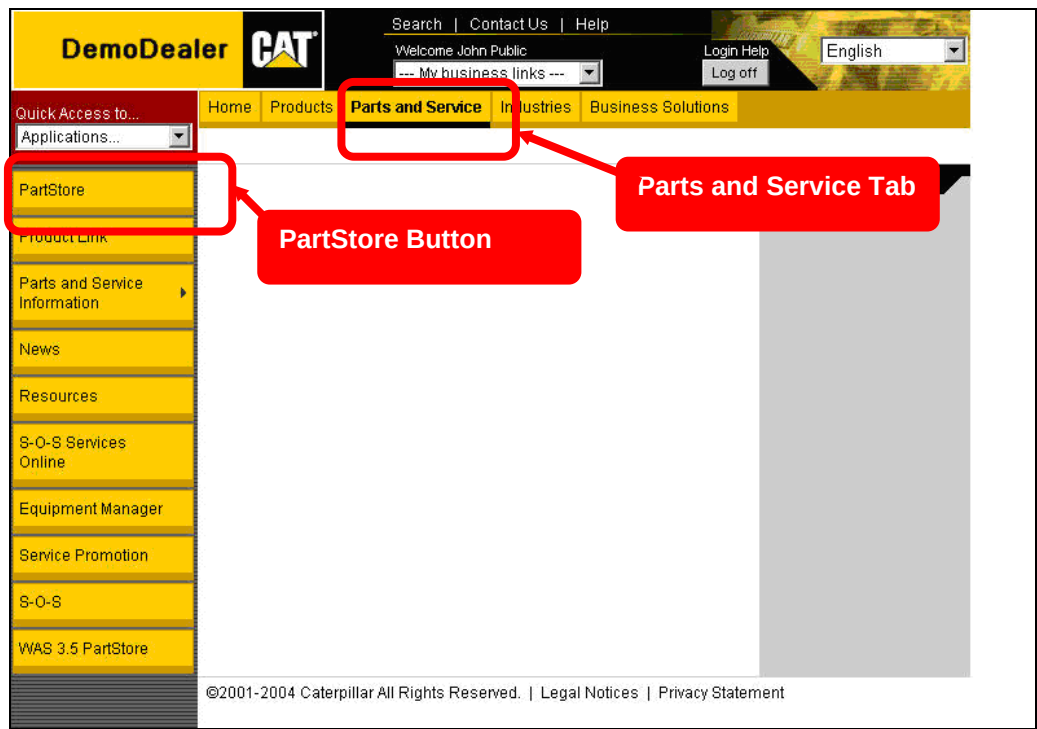

Figure 8 : Dealer StoreFront Parts and Service Screen
- The 'Parts and Service' tab. (Figure 8)